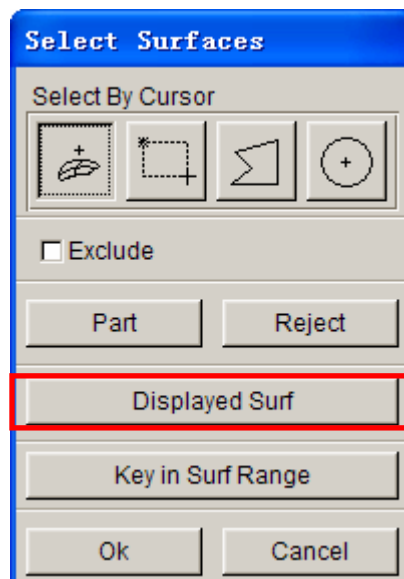

Figure 8 Select Surfaces dialog box
- Click the **Select Surfaces** button to display the **Select Surfaces** dialog illustrated in Figure 8.